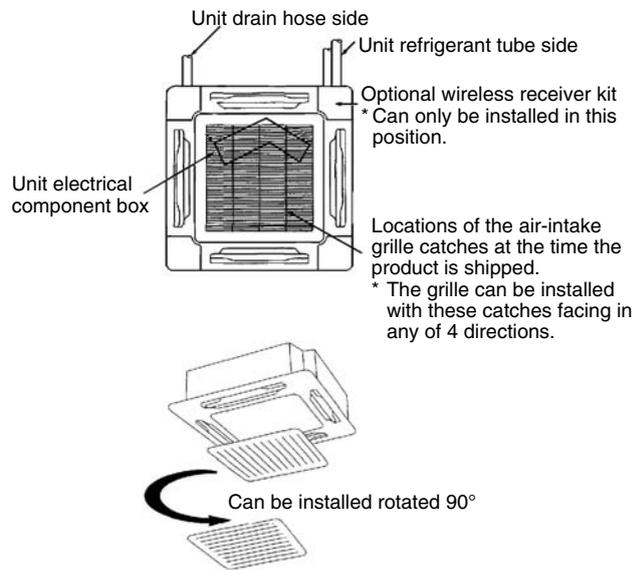

Fig. 9-15
- With this ceiling panel, the directions of the air-intake grille lattices when installing multiple units, and the position of the label showing the company name on the corner panel, can be changed according to customer requests. However, the optional wireless receiver kit can only be installed at the refrigerant-tubing corner of the ceiling unit. (Fig. 9-15)